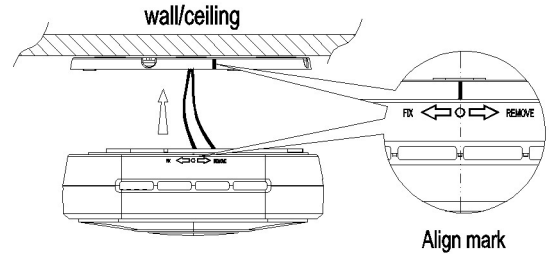
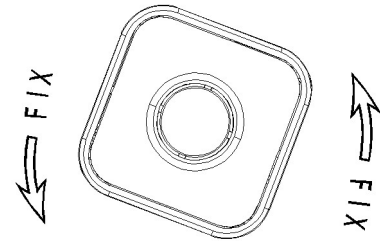

Fig. 11.
Fig. 12.
7. Aim the dot located in the middle of two arrows on the side of the detector with the vertical lines on the backboard. See Fig. 11. Then rotate detector following the "FIX" direction shown in Fig. 12. RS-485 wiring is completed.